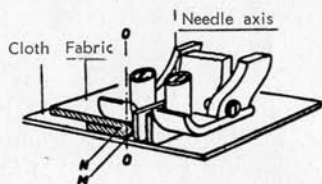

Fig. 28
- 10) In order now to reach a final adjustment of this special foot before starting to work, operate as shown in fig. 28. Place a scrap of fabric similar to the one on which you wish to make the blindstitching, on a cloth stretched on bed-plate of machine.
To correct condition b), turn same in the direction of the arrow until needle enters the correct position 0-0 (fig. 28), thus being exactly in the middle of the fabric thickness.